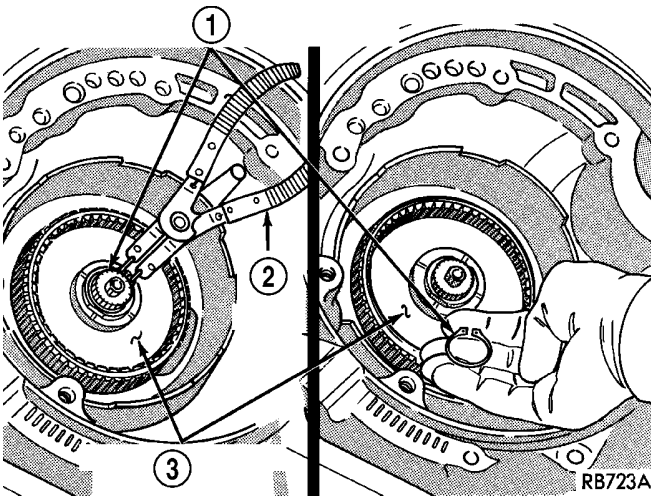

Fig. 34 Front Planetary Gear Snap Ring
(34) Remove front planetary gear-to-output shaft snap ring (Fig. 34).